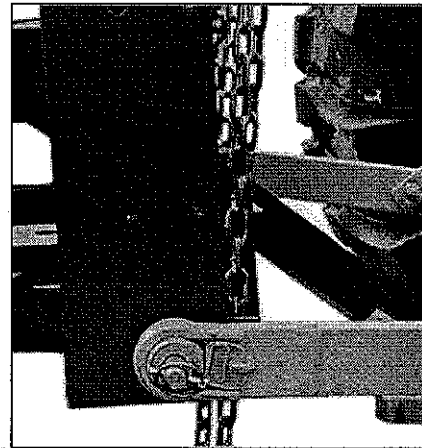

figure 2
If this implement is attached to a tractor with an offset in the drawbar, be certain it is in the down position to prevent damage to the IID guarding and the IID telescoping members. [See Figure 2]
6. Place the mounting assembly's pins in the hitch arms. Secure with ring pins (figure 2).